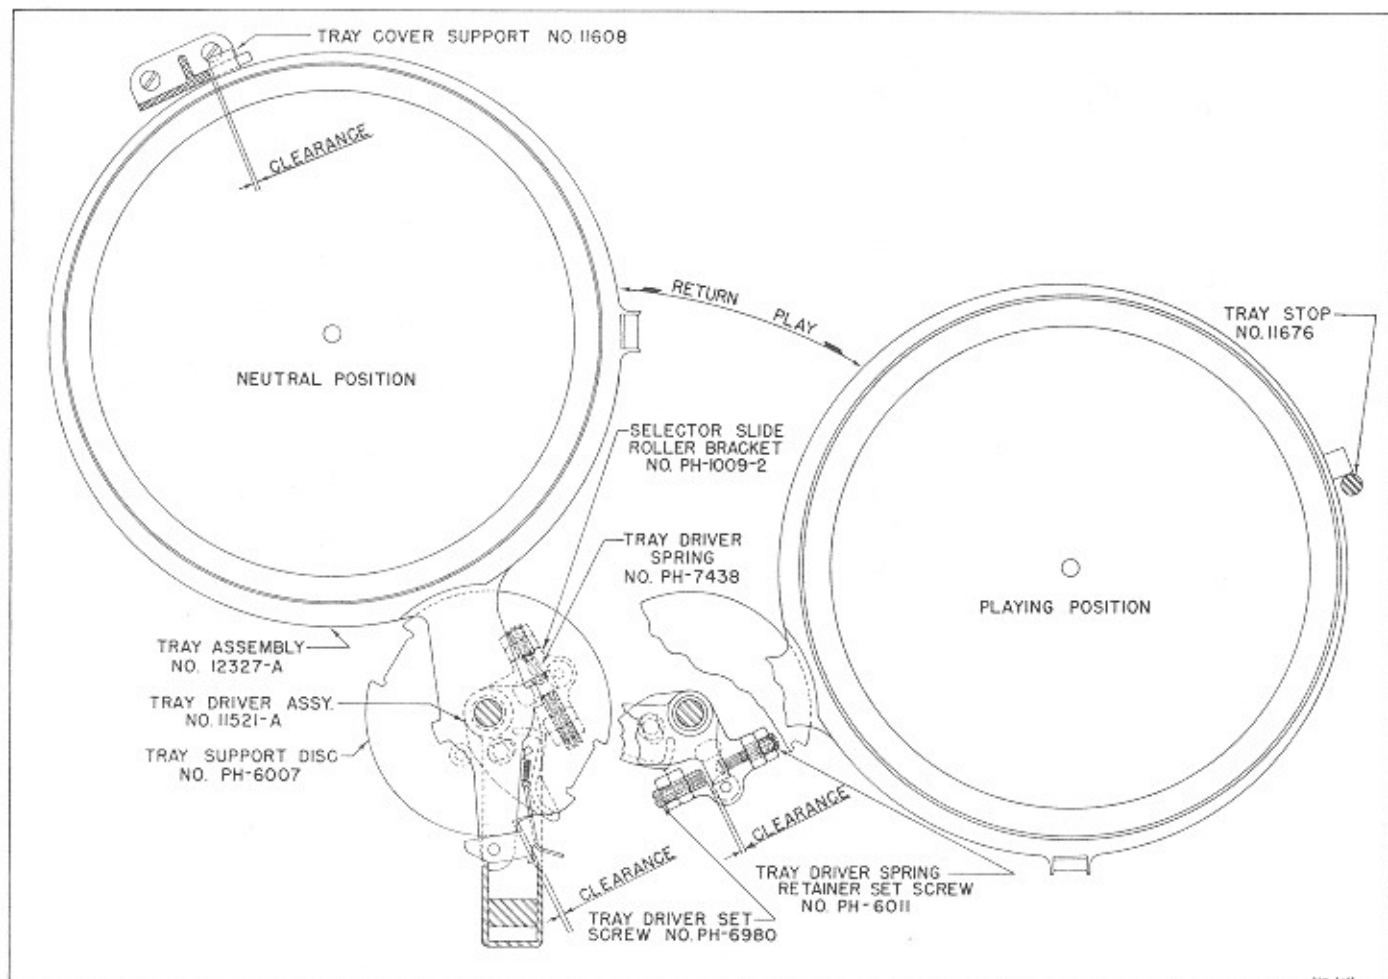

Fig. 19—Tray Stack and Driver (Schematic Drawing)
The record tray and record arc moved from the tray stack position to the turntable position, first by the tray unlocking cam contacting the tray dog, which unlatches the tray from tray supporting disc and places the driving lug of the tray dog in the path of the tray release. When the tray driver starts revolving from the action of the selector cam, the tray and record will be brought over to playing position against tray stop No. 11676 (Fig. 19), which is mounted on the mechanism chassis.
The separate unit on the bottom of the tray driver, drives the selected tray and record under the action of the tray driver spring No. PH-7438 (Fig. 19). This spring compensates for any over travel at tray stop position and holds tray assembly in playing position against tray stop under compression action of the tray driver spring.
On the return stroke the separate unit on the bottom of the tray driver, returns the tray to its original position by positive action of the tray driver set screw No. PH-6980 (Fig. 19).
- (a) When the tray and records are in the tray stack position tray driver set screw No. PH-6980 should be adjusted so that there would be a minimum clearance of $\frac{1}{16}$ " between tray assembly and tray cover support as shown in (Fig. 19). When phonograph mechanism is in normal operation the momentum or fast action of the tray closing will tend to bring the tray assembly snug against the tray cover support. Under no circumstances should tray driver set screw be adjusted so
that the tray assembly would be forced against the tray cover support. For if this should be done there would be a bind on the cam roller No. PH-1196 (Fig. 19). The tray release would not seat properly due to a binding action, and the stroke of the tray driver would be shortened effecting bringing tray to playing position.
- (b) The tray dog should be seated in a locking position with a minimum clearance of $\frac{1}{32}$ " to $\frac{1}{16}$ " between tray dog locking notch in tray supporting disc (Fig. 19). It is very important that this adjustment is properly made for when the tray driver is returning the tray assembly to the stack should the tray dog No. PH-6004 fail to drop in the locking notch of the tray support disc on the following operation of the phonograph this tray together with the tray selected would be brought over the turntable position and a jam would occur.
- (c) When tray and record are in playing position against tray stop under spring action, the tray driver set screw No. PH-6980 should have a definite clearance between screw and tray driver as shown in (Fig. 19).
Check tray stop No. 11676 (Fig. 19) which should be perfectly square with chassis base. If the stop should be bent away from the tray stack, this will effect the tray driver stroke.
The tray release No. 11502 (Fig. 19) should be a snug fit on the tray driver. If there should be excessive play between the tray release and the tray driver (this would cause tray driver stroke to be short) squeeze tray release together with the tray driver in place in a vise.
The tray driver set screw No. PH-6011 (Fig. 19) is not an adjusting screw, but a means of holding the tray driver spring in place. The face of the tray driver set screw contacting the spring should be flush with the casting as shown in (Fig. 19). If the screw should be screwed in too far in the casting the space for the spring to work in would be too short for the spring to function properly. If the spring becomes too weak replace it.